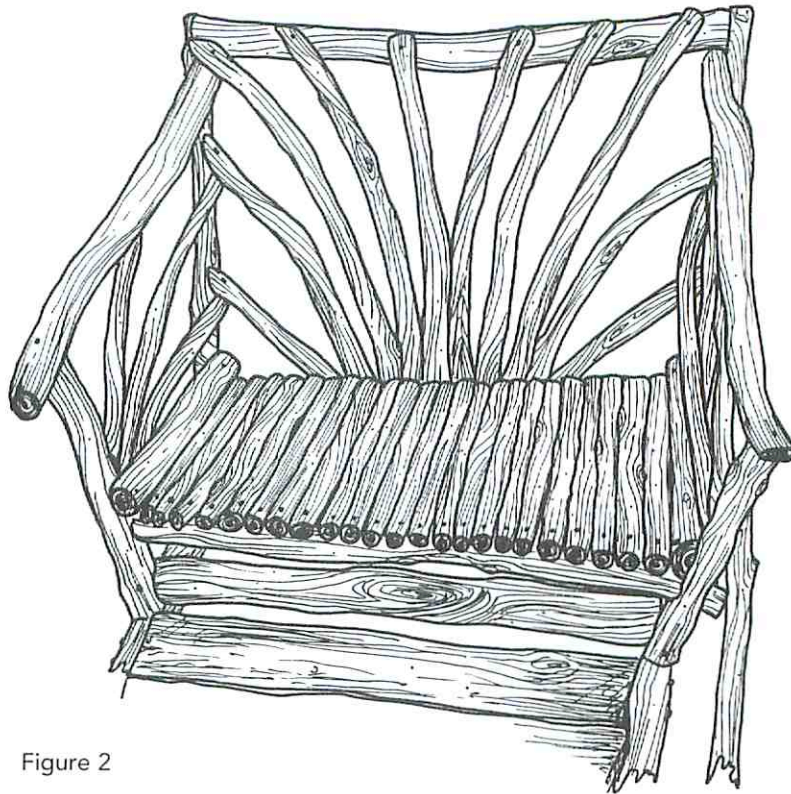

Figure 2
Finally, decide on your design for the back seat. Determine how you'll lay out the back pieces (M), or follow my sketch (see Fig. 2) and then screw them in place.